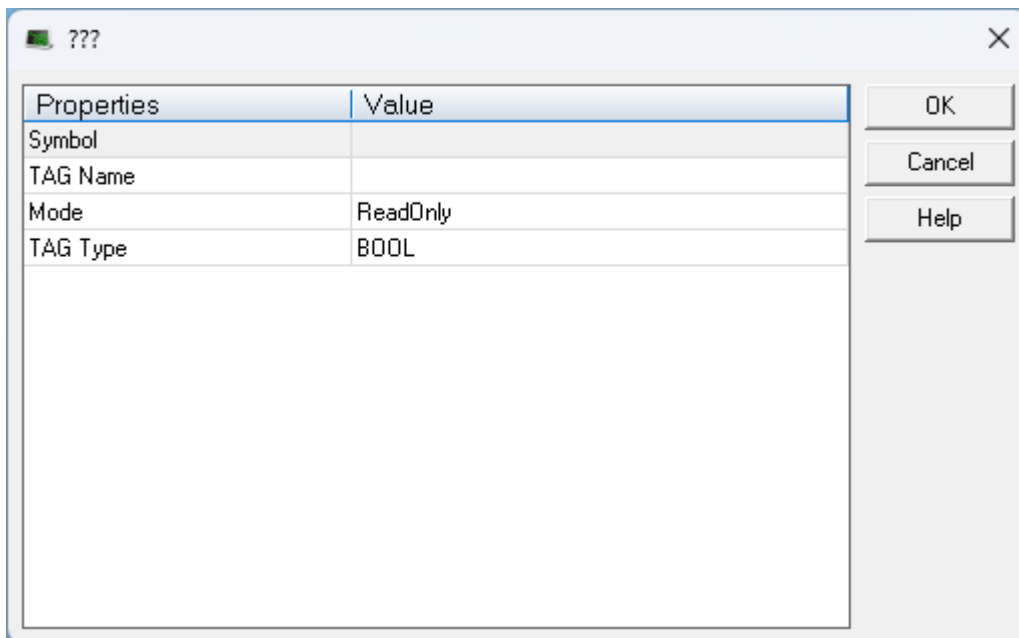

Figure 6-11: Insert Variable (???) dialog box
2. On the vertical toolbar, click the **Insert Variable** button (). The Insert Variable (???) dialog box opens. (Figure 6-11)